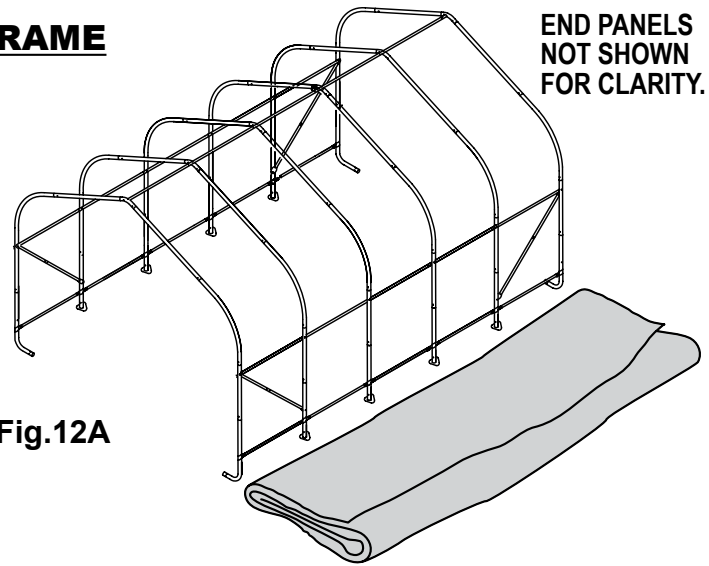

Fig.12A
1. Lay the cover on the ground next to the frame with the inside of the cover (the side with the pipe pockets) facing down and the webbing on the front and rear of the corner of the building. Position the cover so that it is centered on the frame, front to back. **Fig. 12A**